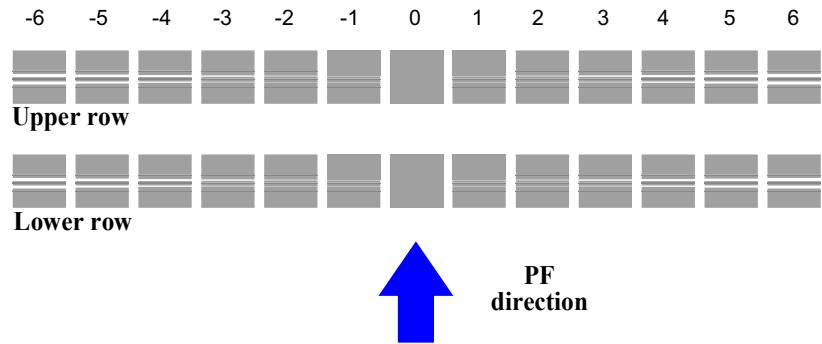

Figure 4-76. Adjustment pattern (fine adjustment)
8. Refer to Figure 4-76, and select the pattern that the white gap between each upper row and lower row is the narrowest.